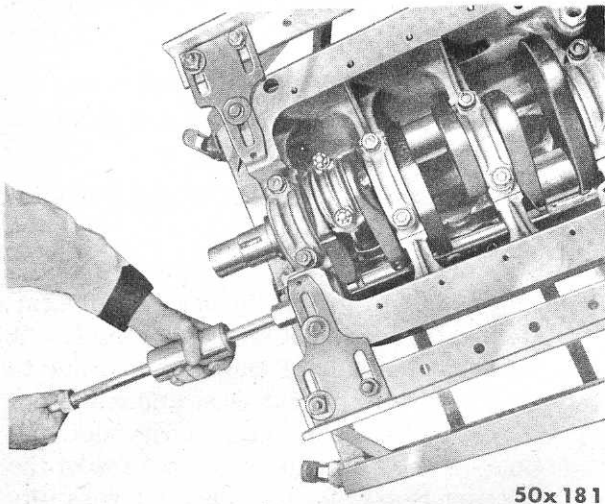

Fig. 16—Removing Camshaft Bearings
- (1) Remove the fan drive pulley or vibration damper, using Tool C-355.
- (2) Remove the timing chain (or gear) case cover. Remove the timing chain.
- (3) Remove the valve tappets and guides (B-4-R, B-4-T, B-4-V and B-4-Y only). On other models, make sure they are held up—out of the way. Remove the camshaft and timing gear if so equipped.
- (4) Place all of the puller bushings of Tool C-536 into the bearings. Slide the puller bar through the puller bushings. Remove the bearings—one at a time—and place the slotted washer in the slot provided in the bar at the back of the bearing to be removed. Strike the nut end of the puller bar with the sliding weight to remove the bearing, as shown in Figure 16.